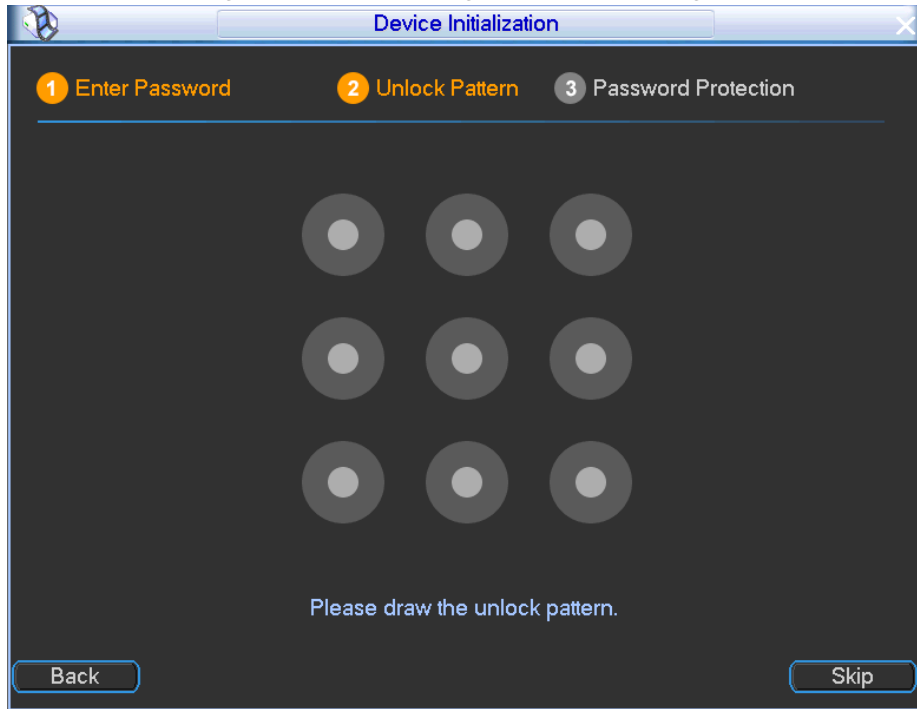

Figure 3-2
Step 3 Click Next, device goes to the following interface. See Figure 3-2.